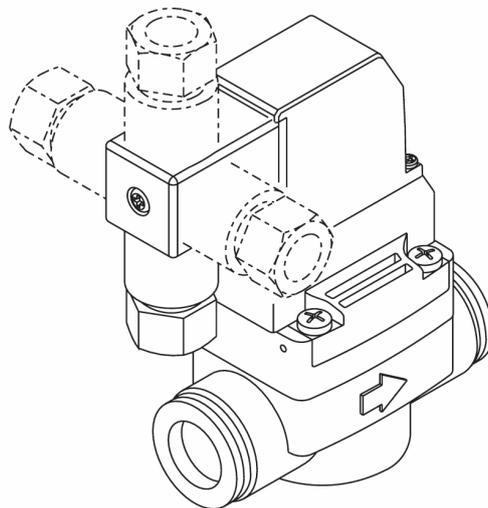

Figure 3 Attaching direction of the DIN terminal box
- Applicable outer diameter dimension for cable ⑦ is VCTF (two or three cores) ($\phi 3.5$ to 7) defined in JIS C3306.
- If you use crimping sleeve ⑩ at the tip of the stranded wire, use H0.5/6 ($0.3 \sim 0.5 \text{ mm}^2$) or H0.75/6 (0.75 mm^2) made by Weidmueller Japan Co.,Ltd. or equivalent. Please provide the crimping sleeve.
- Pass Cable Gland ④, Washer ⑤, and Rubber Packing ⑥ through Cable ⑦. Insert the Cable into Cover ②.
Set the wire-connected Gland ③ into Cover ② (insert the gland until you hear a snap sound). You can set the gland in four directions (refer to figure 3). Insert Rubber Packing ⑥ and Washer ⑤ in that order into the cable entrance of Cover ②. Tighten Cable Gland ④ onto Cover ② firmly.